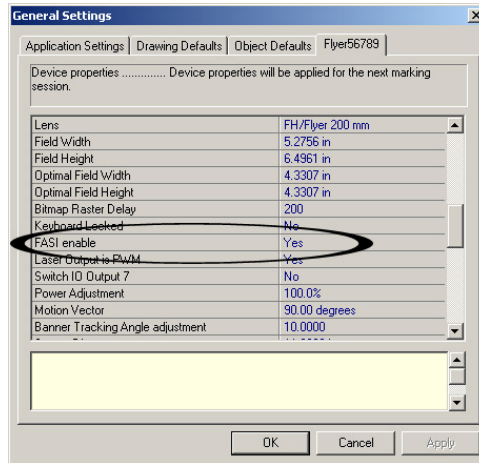

Figure 18 FASI Enable property display
- 1 After reassembly is complete, power up the unit and connect to WinMark Pro. In WinMark under Tools / General Settings..., click the “Flyer” tab and scroll down until the *FASI Enable* property appears (Figure 18). This property reads the current state of the FASI switch setting. If you **enabled** FASI, the *FASI Enable* property value will read “Yes”; if you **disabled** FASI, it will be “No”.